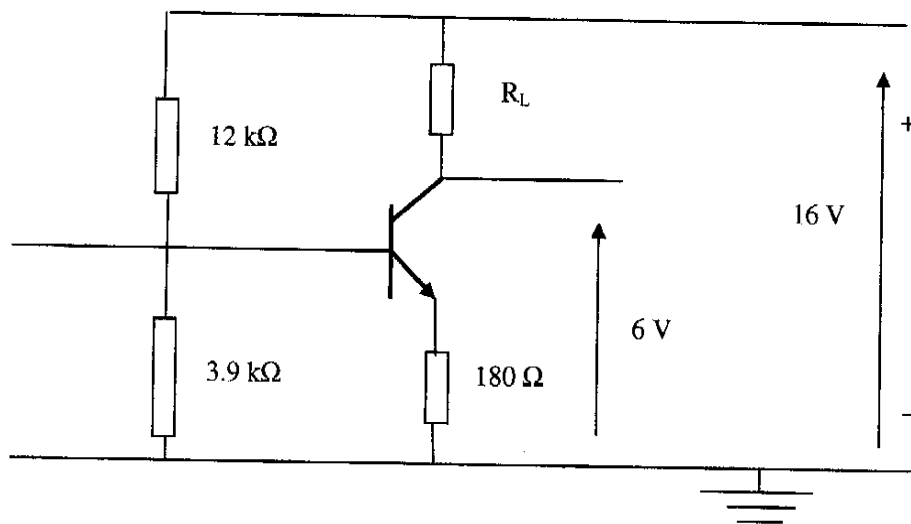

Fig Q4
- (a) the supply current; (3)
- (b) the resistance of the coil; (5)
- (c) the inductance of the coil; (5)
- (d) the power factor of the coil. (3)
4. The p.d. between base and emitter for the transistor shown in Fig Q4 is 0.4 V and the steady state output voltage is 6 V. The base current is negligible.